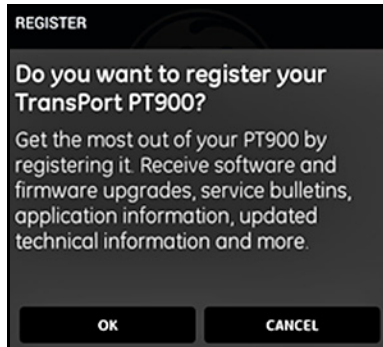

Figure 62: PT900 Registration
5. At the *Registration* screen (see *Figure 62* below), click **OK** to register your PT900 or click **CANCEL** to skip the registration.